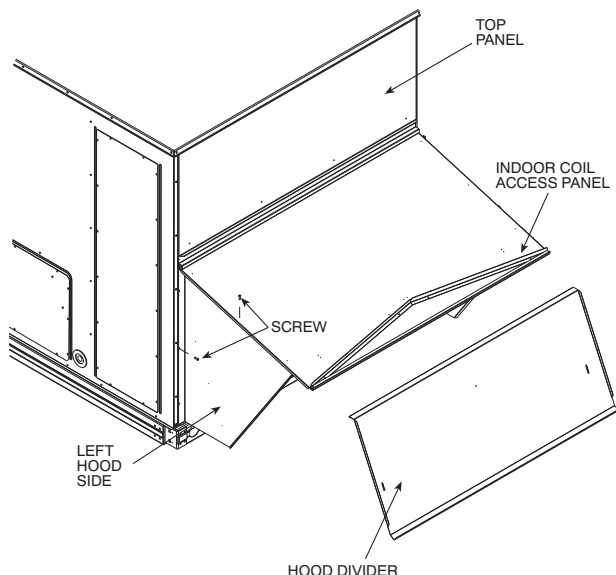

Fig. 16 — Economizer Hood Construction
2. Swing out indoor coil access panel and insert the hood sides under the panel (hood top). Be careful not to lift the panel too far as it might fall out. Use the screws provided to attach the hood sides to the hood top. Use screws provided to attach the hood sides to the unit. See Fig. 16.
7. Install the two rain deflectors on the edge of the hood top as shown in Fig. 16.